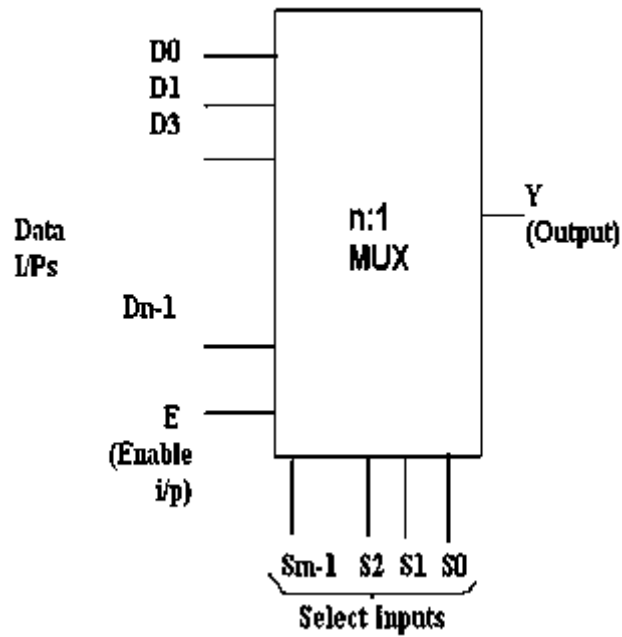

Fig 10.1: Block diagram of n: 1 Multiplexer
Multiplexer is a combinational circuit that is one of the most widely used in digital design. The multiplexer is a data selector which gets one out of several inputs to a single output. It has n data inputs and one output line and m select lines where $2^m = n$ shown in fig10.1. Depending upon the digital inputs applied at the select inputs one out of n data input is selected and transmitted to a single output channel. Normally strobe (E) input is incorporated which is generally active low which enables the multiplexer when it is LOW. Strobe input helps in cascading. IC 74151A is an 8: 1 multiplexer which provides two complementary outputs Y and \bar{Y} The output Y is same as the selected input and \bar{Y} is its complement. The $n: 1$ multiplexer can be used to realize m variable function. ($2^m = n$, m is no. of select inputs)